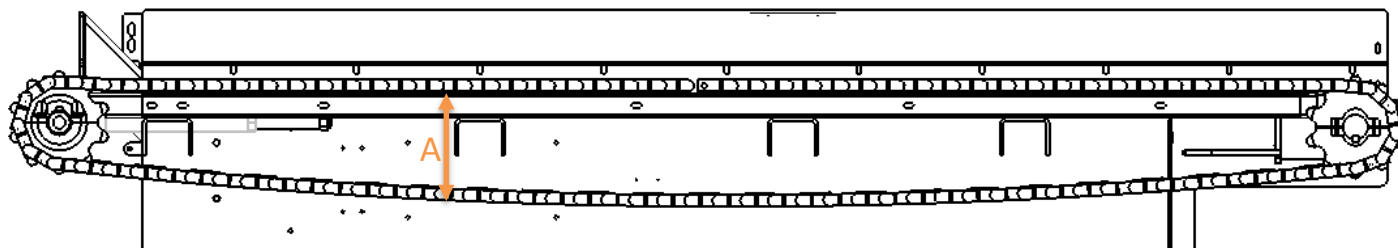

Figure 7-1: Sectioned Side View of Floor Chain
Figure 7-1 shows the correct slack wanted during use. Dimension (A) is measured from the bottom of the slacked chain to the underside of the floor panels off the side of the second to end floor joist, on the side facing the adjustment rod. When the machine is not running and at a standstill Dimension (A) should measure 8.75 inches (22.23 cm).